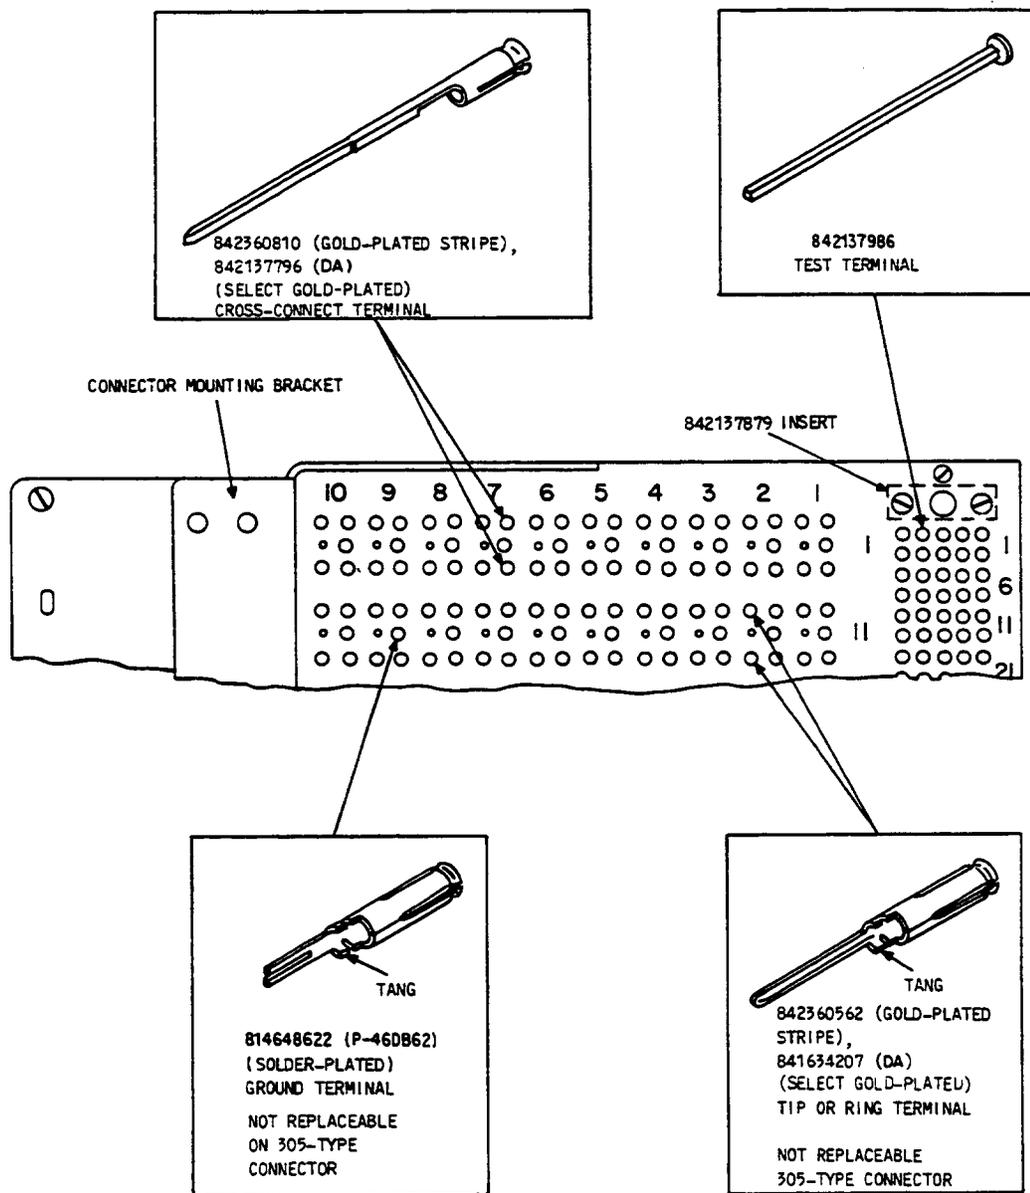

Figure 9—305-Type Connector — Replacement Terminals
4.07 To remove the 842360810 or 842137796 (DA) cross-connect terminal (Figure 9), proceed as follows:
4.09 To remove the 842137986 test terminal (Figure 9), proceed as follows: